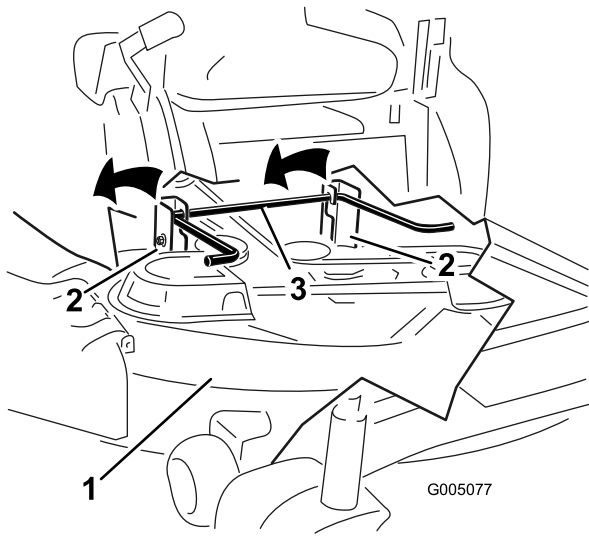

Figure 62
6. Lift the mower deck and hanger brackets clear of the rear lift rod and lower the mower carefully to the ground (Figure 62).
5. Lift the rear of the mower deck and guide the hanger brackets over the rear lift rod (Figure 62).
5. Position the spring on the rod as shown in Figure 62 so that the shorter spring end comes from under the rod before the bend and going over the rod as it returns from the bend.